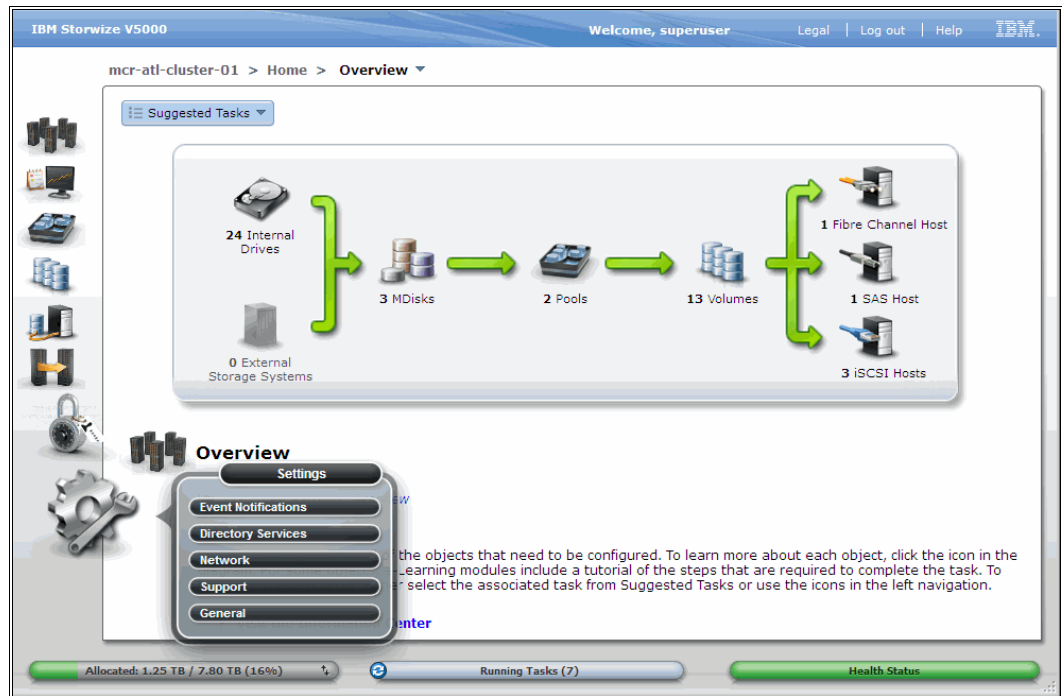

Figure 2-49 Enabling Call Home
1. Click **Settings** → **Event Notifications**, as shown in Figure 2-49.